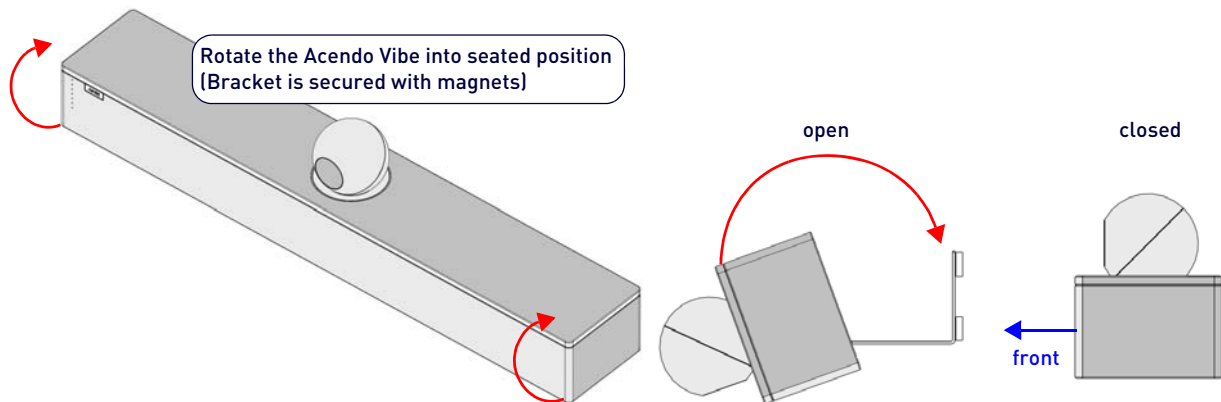

FIG. 13 Rotating the Acendo Vibe into its seated position
4. Rotate the Acendo Vibe into seated position. The Bracket is secured with magnets (FIG. 13).
After connecting all cables, close the Bracket to return the Acendo Vibe to its seated position. The Bracket is secured via internal magnets (FIG. 13):